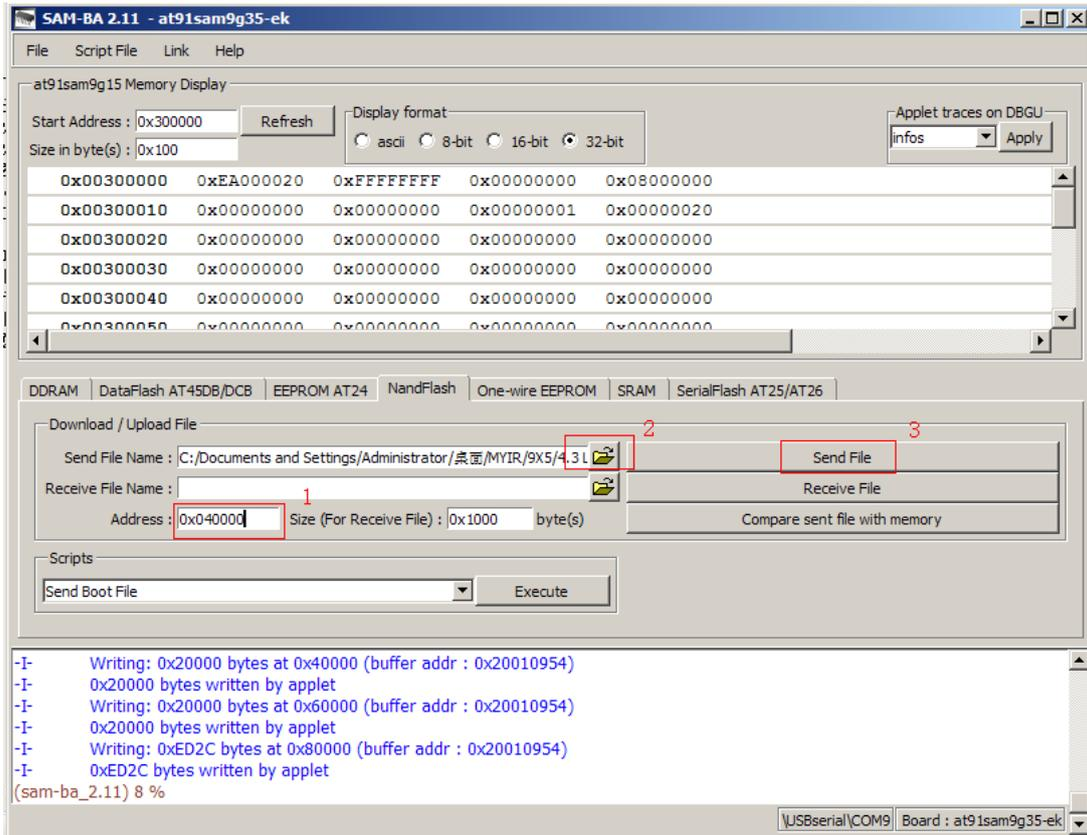

Figure 5-13
(6) Download u-boot.bin file to 0x40000 Department. Refer to figure 5-13: